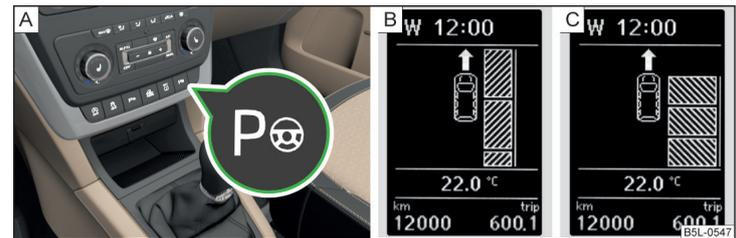

Fig. 141 System button / display
When the system is activated, the warning light lights up  » Fig. 141 on page 151 - A.
- Press the symbol button  » Fig. 141 .
The display shows the following » Fig. 141 - B.
- Press the symbol button  twice » Fig. 141 .
The display shows the following » Fig. 141 - C.
- Press the symbol button » Fig. 141 on page 151.